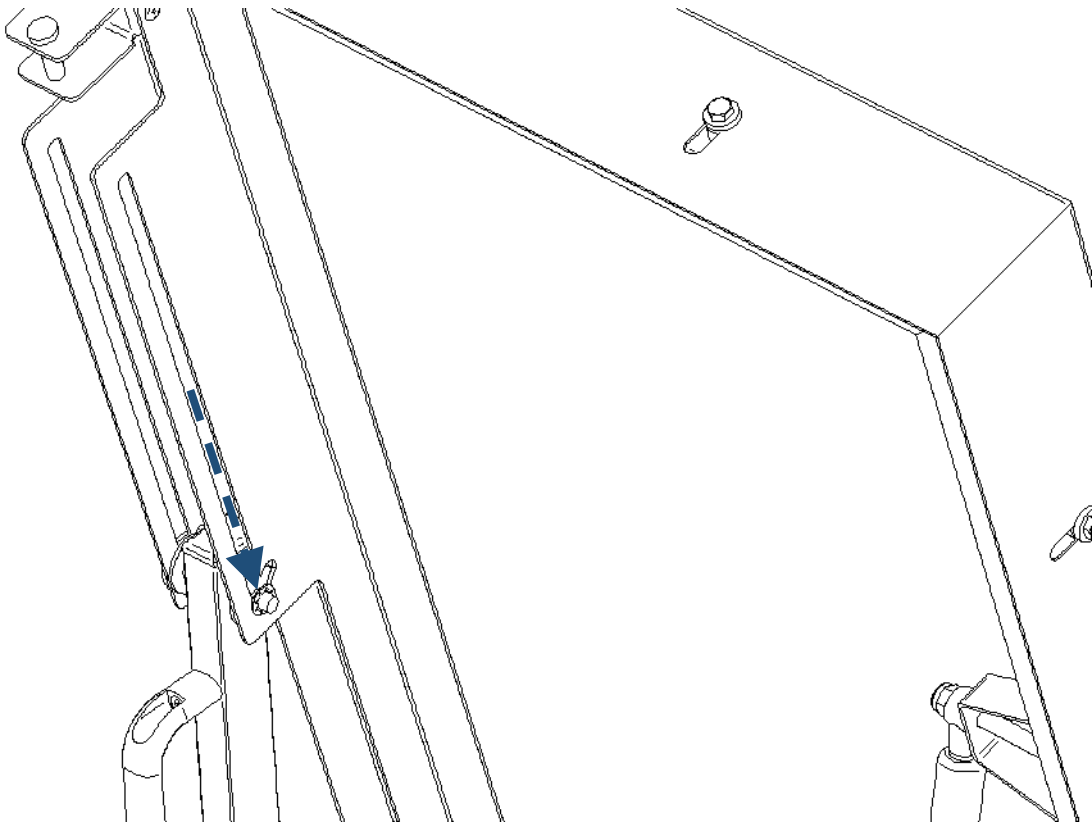

Fig. 14 The direction of locking mechanism in the guide when opening and the locking position.
2. Pull the handle of the locking mechanism to close the hatch - the locking mechanism will move along the guide (in the opposite direction to shown in Fig. 14). Close the hatch, turn the handle and lock as required.